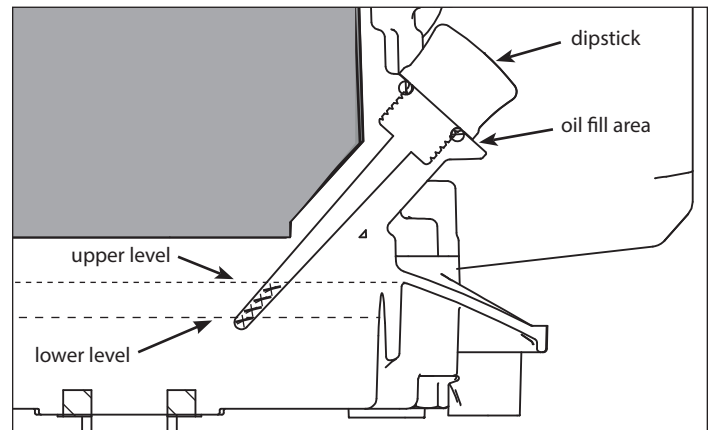

FIGURE 1
1. Clean around oil fill area. **SEE FIGURE 1**
2. Slide out dipstick and wipe clean with cloth. **SEE FIGURE 1**
5. If oil level is below the marking on the oil dipstick, refill to upper level. **SEE FIGURE 1**